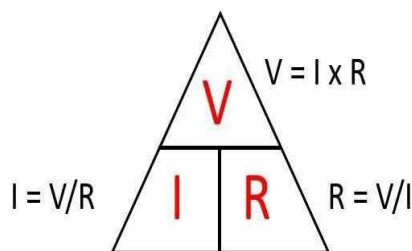

Fig. 2.5: Ohm's triangle
1. Set up a circuit as shown in Figure 2.5, consisting of a nichrome wire XY of length, say 0.5 m, an ammeter, a voltmeter and four cells of 1.5 V each. (Nichrome is an alloy of nickel, chromium, manganese, and iron metals.)